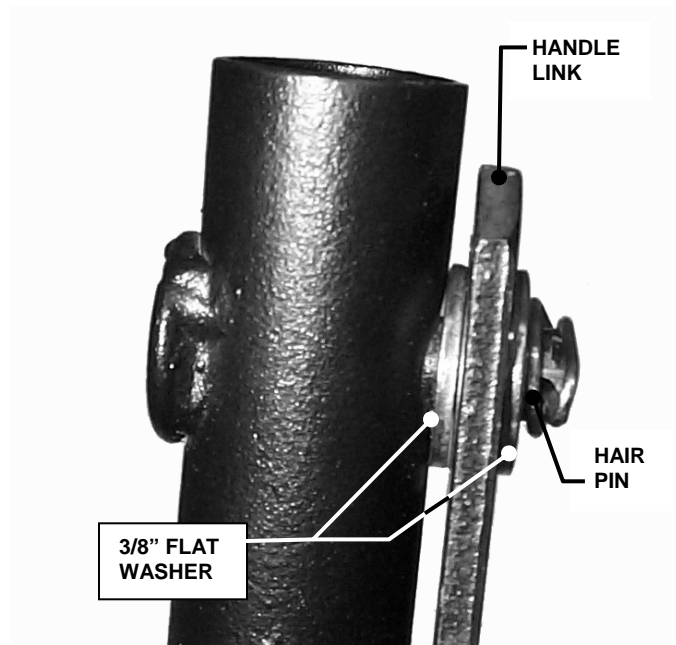

FIGURE 1.9
- C. Insert stud into center hole of right Handle Link. Add another 3/8" flat washer over stud and secure with hair pin. See Figure 1.9. **NOTE:** The right and left Handle Links contain 3 closely spaced holes to adjust the amount of force required to close and latch the Grass Catcher. To increase the closing force and provide a tighter seal between the front and rear covers, place stud in rear hole. To decrease the force, place stud in front hole.